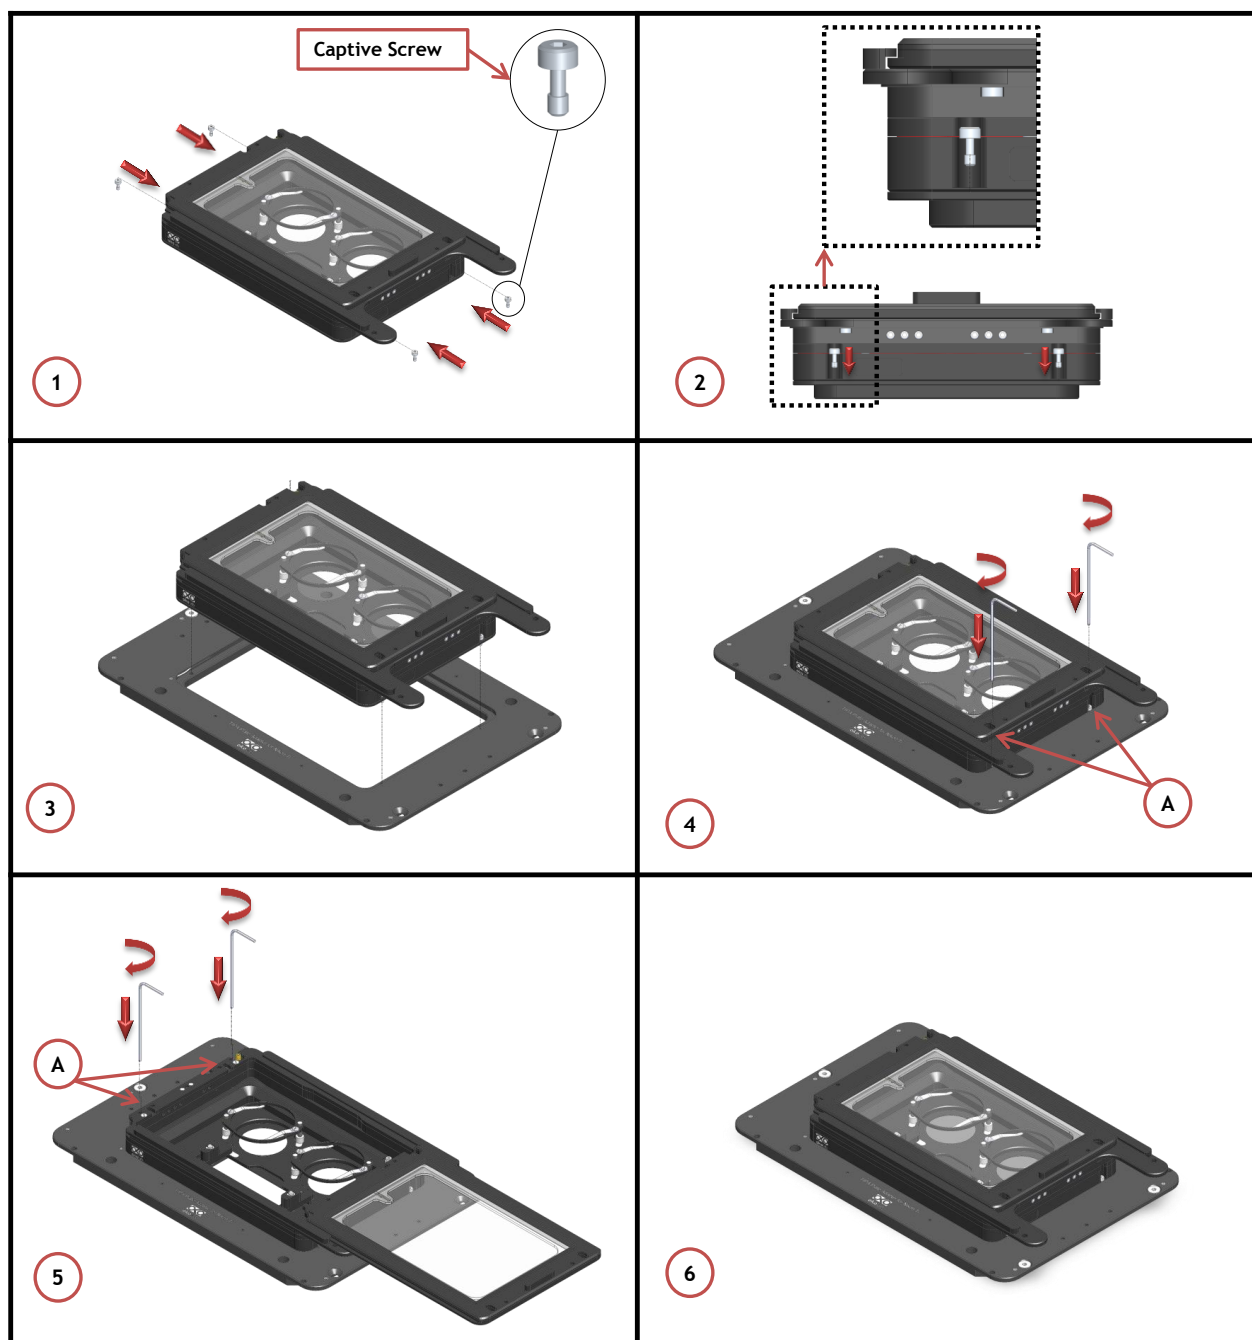

Figure 20. How to assemble the chamber to the adapter.
Follow the steps shown in the images of Figure 20 and listed below in order to correctly install the chamber onto XY stage:
1. Follow the arrows shown in Figure 20 Images 1 and 2 for placing the captive screws in the proper housings
2. Place the chamber on the adapter as shown in Figure 20 Image 3
3. Use a 1.5mm metric Allen Wrench to tighten two of the four captive screws in place (A in Image 4) while keeping the sliding lid closed. (See Figure 20 Image 4)
5. Image 6 of Figure 20 shows the chamber fixed on the adapter